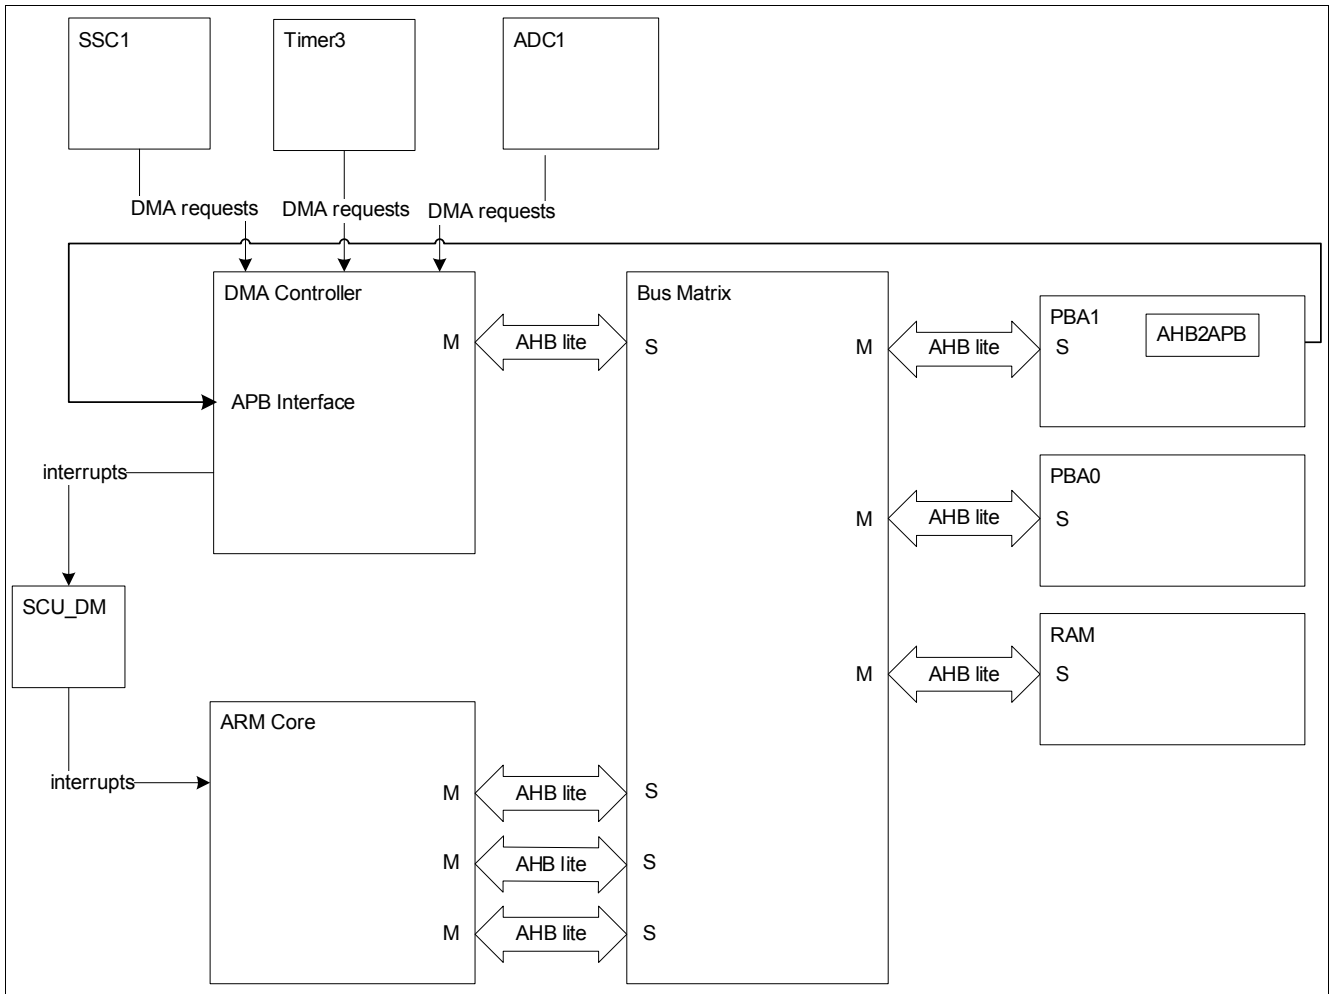

Figure 13 DMA Controller Top Level Block Diagram
**Figure 13** shows the Top Level Block Diagram of the TLE9877QXA20.